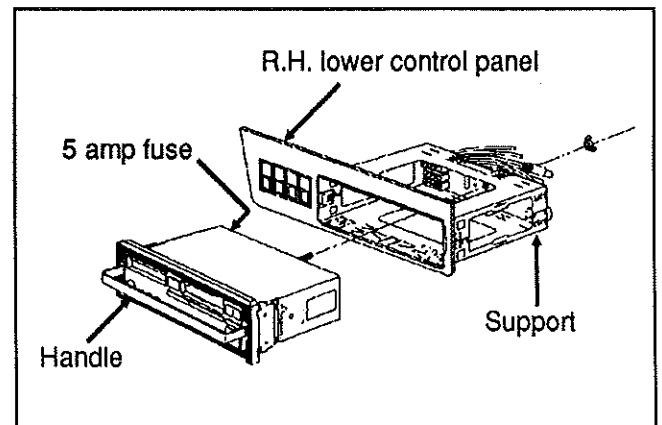

Fig. 2 - AM/FM radio cassette player
2. Carefully pull out panel slightly from dashboard, then unscrew wing nut retaining radio to its support (refer to fig. 2).